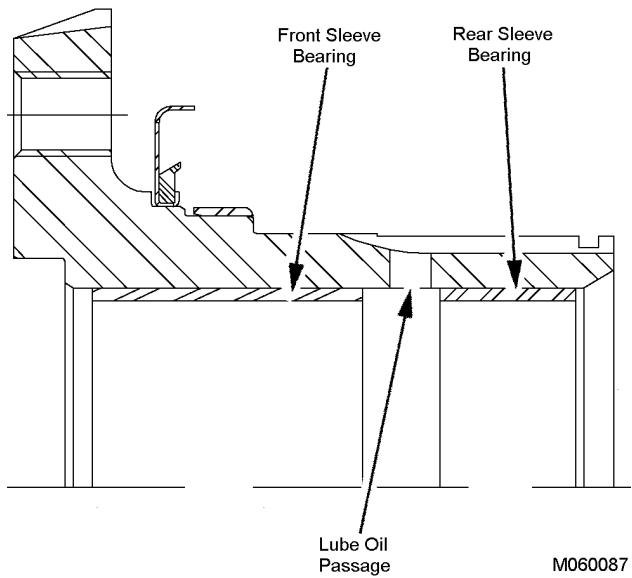

FIGURE 7-40.
3. Using tooling (A), press front (long) sleeve bearing (44) into the fan mounting hub until the tool contacts the shoulder of the hub. Ensure the correct bearing is installed. There are two sleeve bearings, and each one must be installed in the proper area of the hub to ensure the lube passage is not restricted. Refer to Figure 7-40.
4. Turn the hub over on the bed of the press. Using tooling (B), press rear sleeve bearing (41) into the fan mounting hub until the tool contacts the shoulder of the hub.